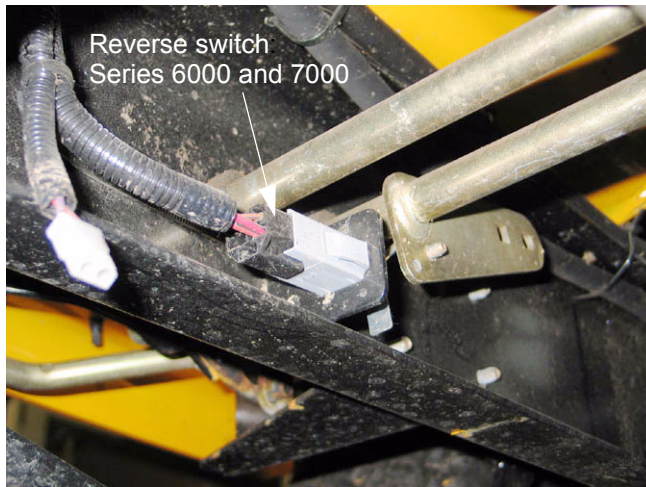

Figure 2.22
2.22. The reverse switch on the series 6000 and 7000 tractors operates in the same manner to control the PTO clutch. See Figure 2.22.